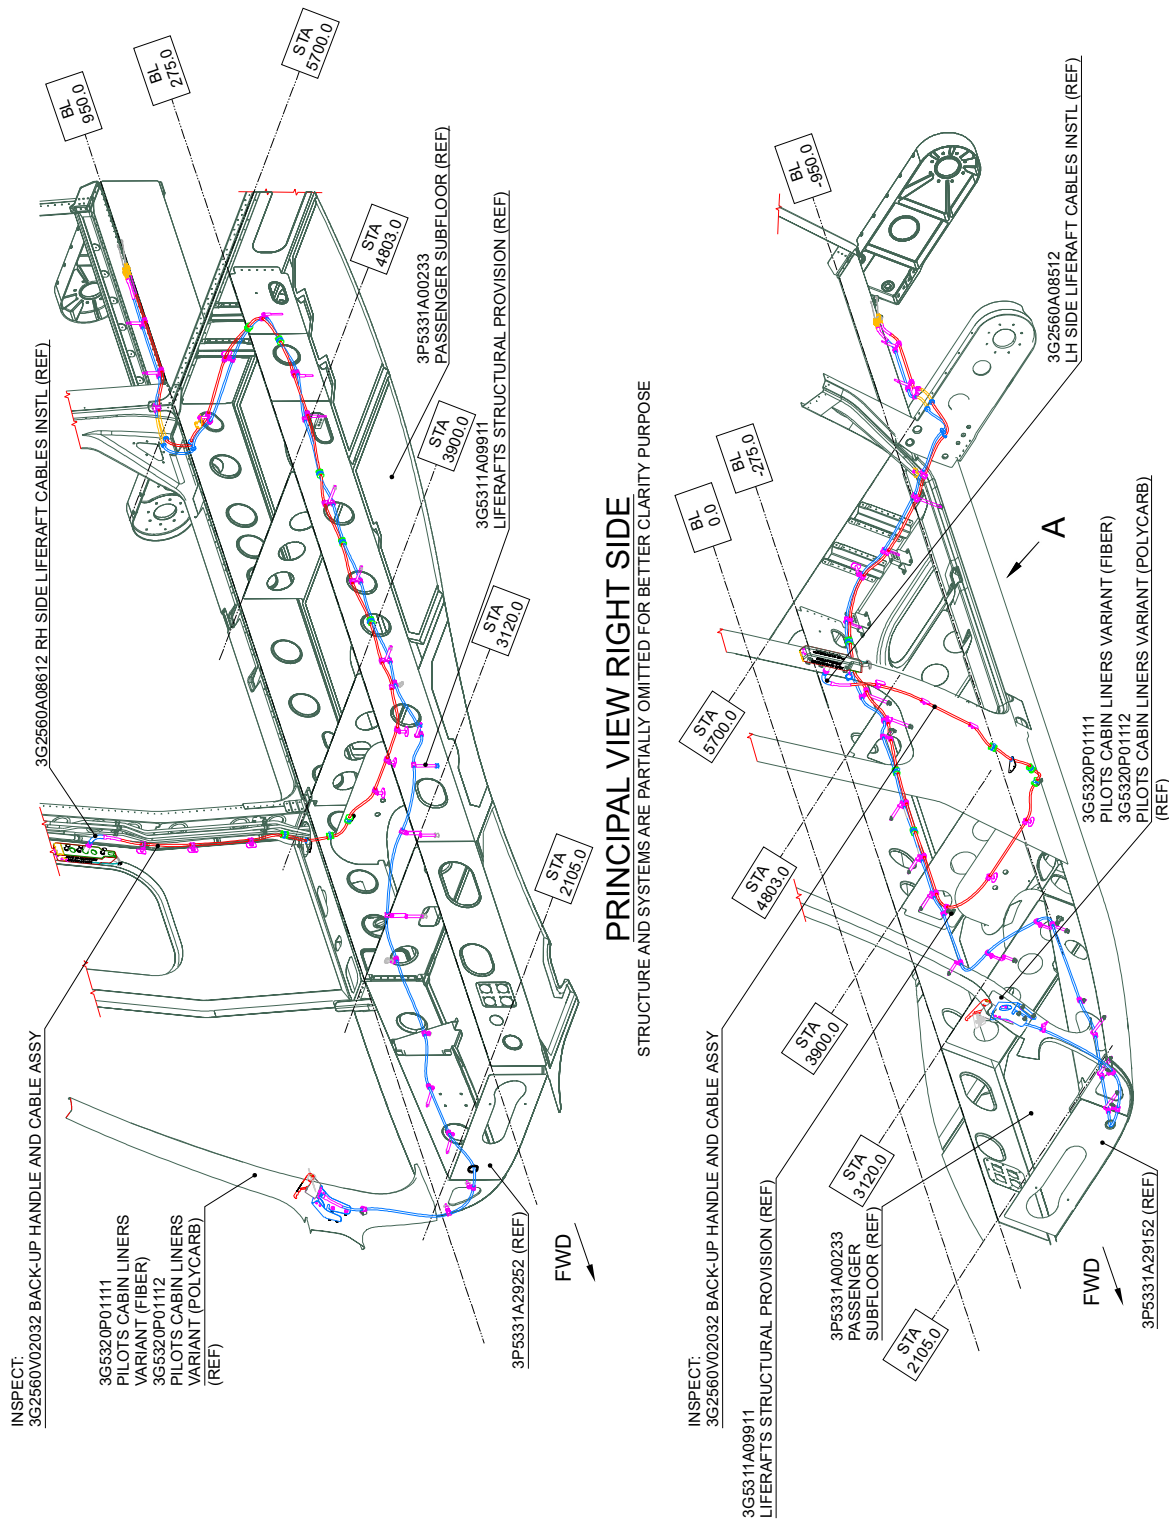

Figure 1
2. In accordance with AMP DM 39-A-06-41-00-00A-010A-A and with reference to Figure 1, remove all external panels, internal panels and internal liners as required to gain access to the area affected by the inspection. Perform the inspection as described in the following procedure:
- 2.1 With reference to Figure 1 Principal view right side and Principal view left side, inspect the back-up handle and cable assemblies P/N 3G2560V02032 to check if there is water and/or condensation inside the transparent sleeving that protects the metal cable.
- and/or AMP DM 39-E-25-62-04-00A-520A-K, and with reference to Figure 1 Principal view right side and/or Principal view left side, remove and discard the back-up handle and cable assemblies P/N 3G2560V02032 from the helicopter.
- 2.3 In accordance with applicable steps of AMP DM 39-E-25-62-03-00A-720A-K and/or AMP DM 39-E-25-62-04-00A-720A-K, and with reference to Figure 1 Principal view right side and/or Principal view left side, install the new back-up handle and cable assemblies P/N 3G2560V02032 on the helicopter.
3. with reference to Figures 1 and 2 gain access to the area affected by the installation and perform the LH-RH liferaft cables installation retromod P/N 3G2560P02011 as described in the following procedure: